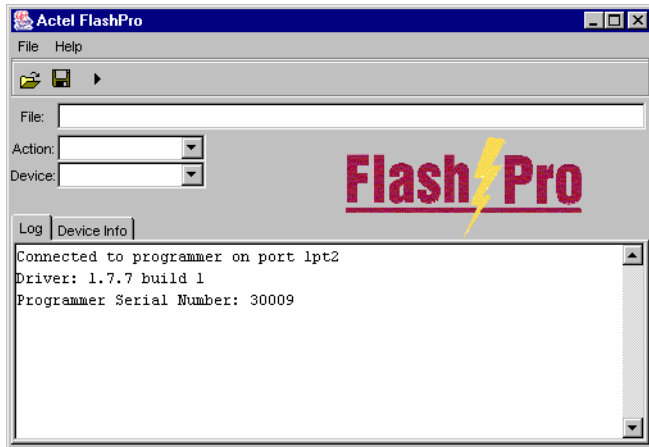

Figure 2-3. FlashPro: Successful Connection
5. **Click Connect.** A successful connect or any errors appears in the Log window, as shown in Figure 2-3. If you encounter failures, please refer to “Error Messages & Trouble Shooting Tips” for more information.